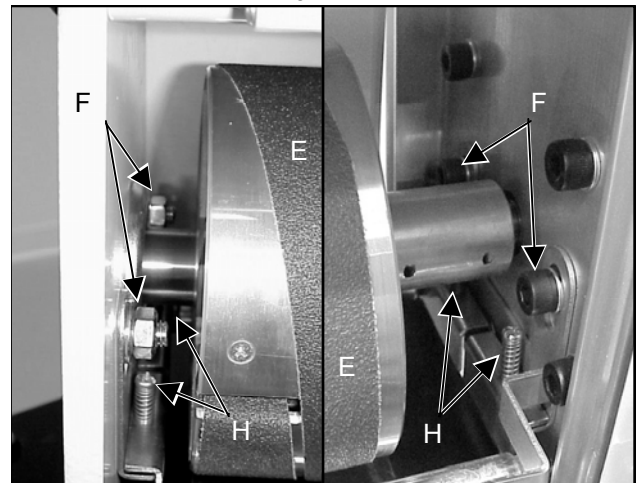

Figure 20
1. Remove the abrasive strip (Figure 20 Item E) from the drum.
2. Loosen the two bearing hex nuts (Figure 20, Item F) on the outboard side of the drum and two cap screws on the inboard side (Figure 20, Item G).
You can also adjust the spring-loaded screws (Figure 20, Item H) found on the pressure roller brackets, to increase or decrease roller pressure. If you are getting snipe marks at the leading end of the board adjust the outfeed roller pressure. If the snipe marks occur on the trailing end of the board, adjust the infeed roller pressure.